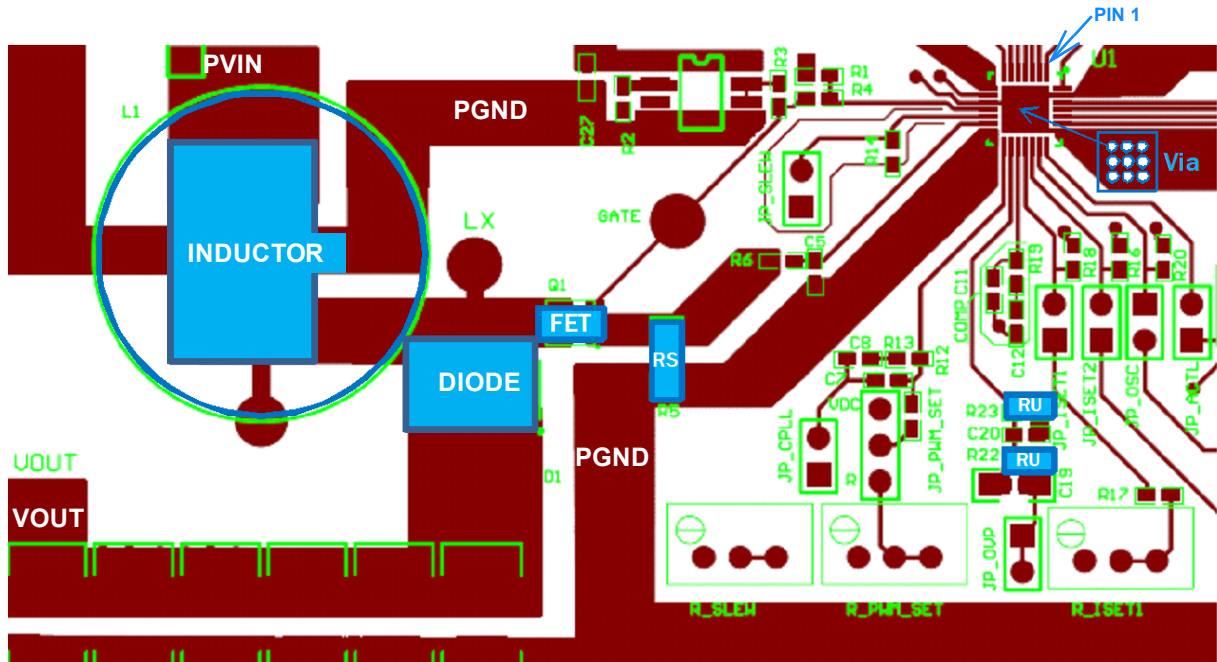

FIGURE 29. EXAMPLE OF TWO LAYER PCB LAYOUT
2. Figure 29 shows important traces of current sensor (RS) and OVP resistors (RU, RL). The current sensor track line should be short, so that it remains as close as possible to the Current Sense (CS) pin. Additionally, the CS pin is referenced from the adjacent PGND pin. It is extremely important that this PGND pin is placed with a good reference to the bottom of the sense resistor. In Figure 29 you can see that this ground pin is not connected to the thermal pad, but instead used to effectively sense the voltage at the bottom of the current sense resistor. However, this pin also takes the gate driver current, so it must still have a wide connection and a good connection back from the sense resistor to the star ground. Also, the RC filter on CS should be placed referenced to this PGND pin and be close to the chip.